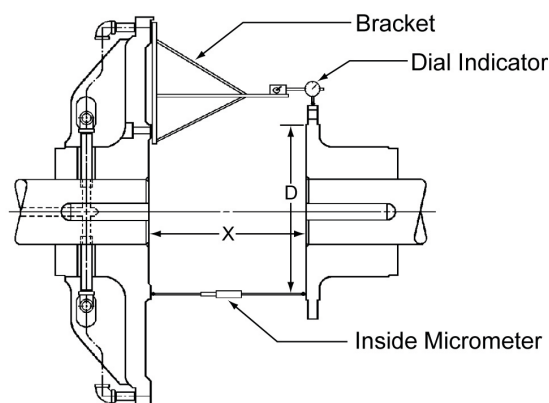

Figure 5
Not to exceed 0.0005 inch per inch (0.0127mm/ mm) diameter at which readings are taken ("D" on Figure 5).
- 2.4.1 Foundations must be set so distance "X," shown on Figure 5 (or the appropriate drawing for non-standard applications), is established. If the clutch is mounted on a shaft having plain bearings, make sure the shaft is centered within the bearings when establishing the "X" dimension. Refer to Table 2 for appropriate "X" dimensions.
- 2.4.2 Fabricate a rigid bracket for supporting a dial indicator and attach to the spider shown on Figure 5 .
Table 2. "X" Dimensions (Fig 5)